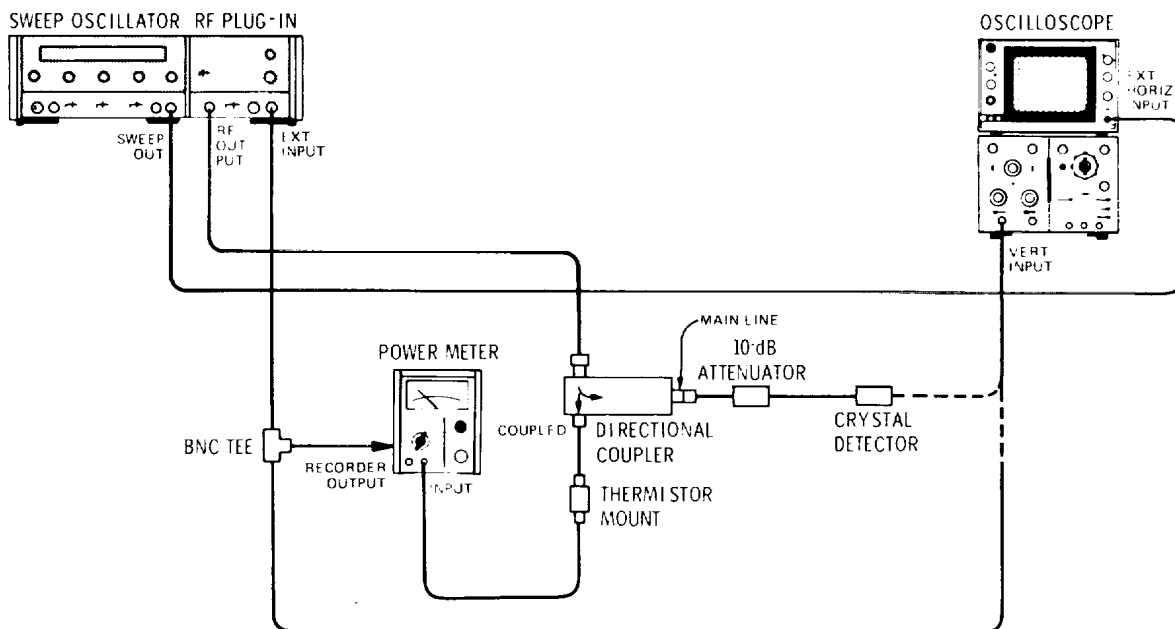

Figure 4-6. Power Meter Leveling Test Setup
g. Connect equipment as shown in Figure 4-6, with crystal detector connected at oscilloscope VERT INPUT.